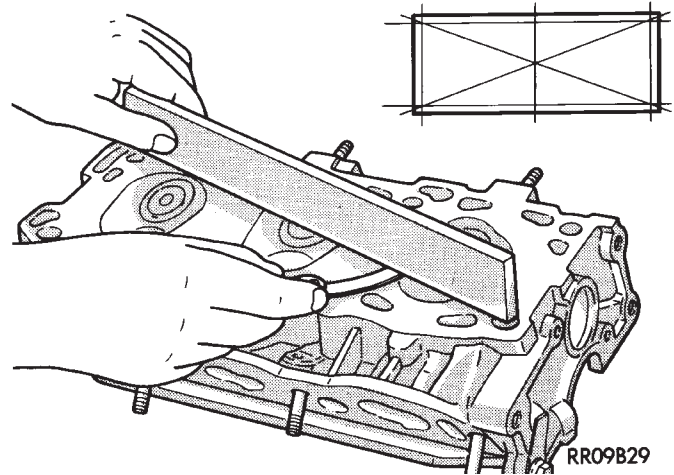

Fig. 8 Check Cylinder Head
(1) Before cleaning, check for leaks, damage and cracks.
(2) Clean cylinder head and oil passages.
(3) Check cylinder head for flatness (Fig. 8).
(4) Inspect all surfaces with a straightedge if there is any reason to suspect leakage. If out of flatness exceeds .019mm (.00075 inch), times the span length in